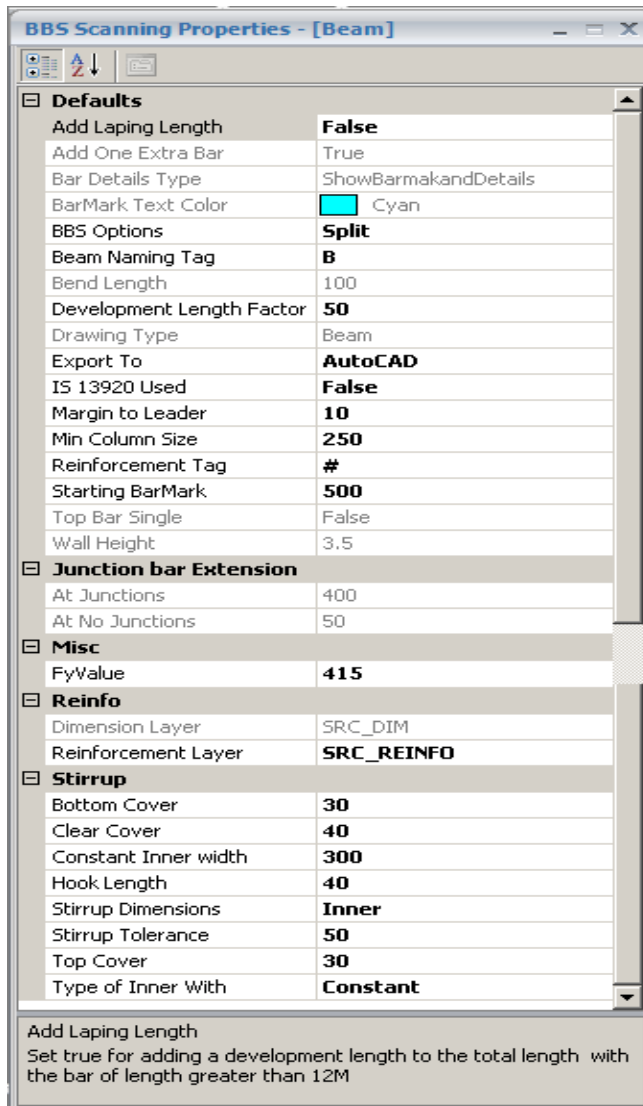

Fig 6.3.3
6.3.3 Click on the **properties** from tool bar (fig 6.3.3)